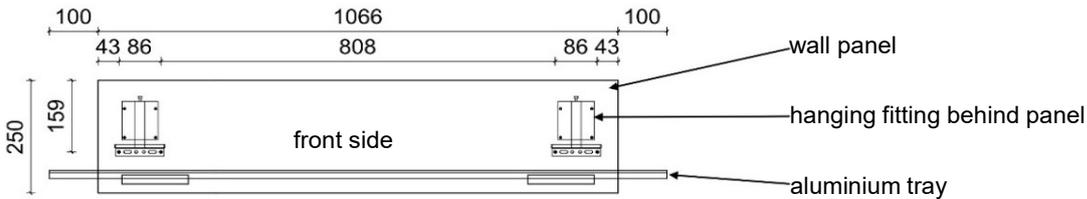

**fig. 1:** Drilling dimensions (in mm) from outer edge for suspension rail
**1.** Transfer the drilling dimensions for suspension rails to the room wall as shown in Figure 1. Drill a hole  $\varnothing$  8mm in the masonry and insert the dowel  $\varnothing$ 8 x 51mm. Secure the suspension rail with 2 x screws  $\varnothing$ 5 x 80 mm.